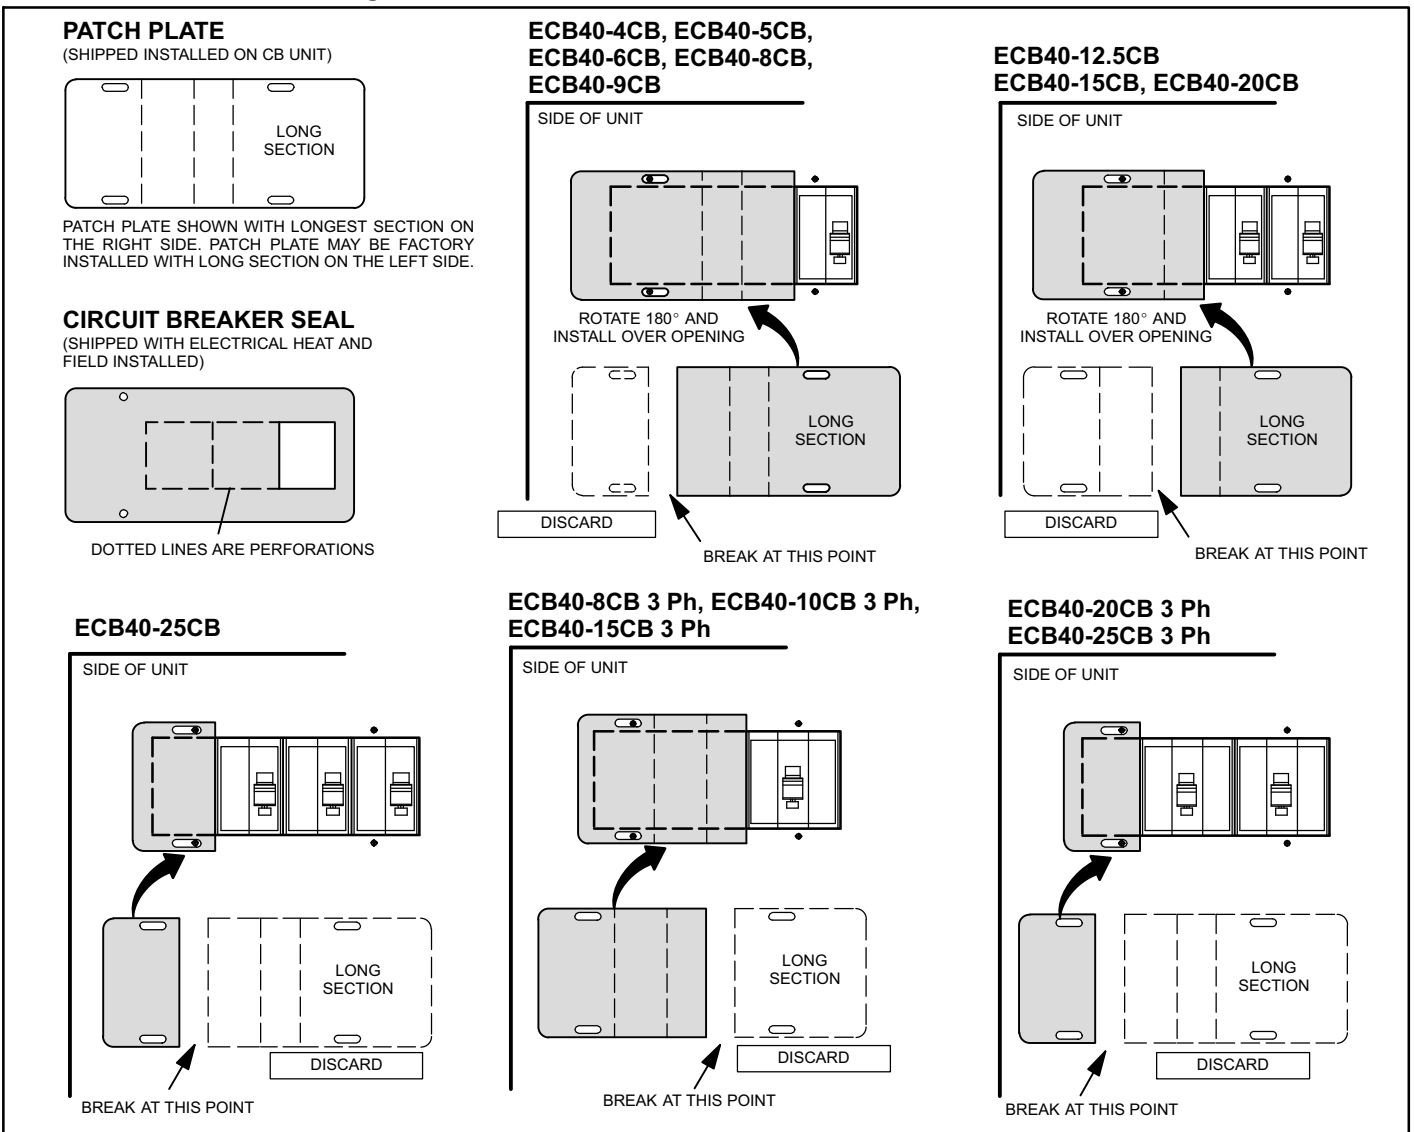

Figure 5. Circuit Breaker Heater and Patch Plate Configuration (CBX40UHV)
8. Break the patch plate for the specific size of electric heat unit / air handler unit that you are installing as illustrated in figure 5. Discard the unused piece of patch plate.